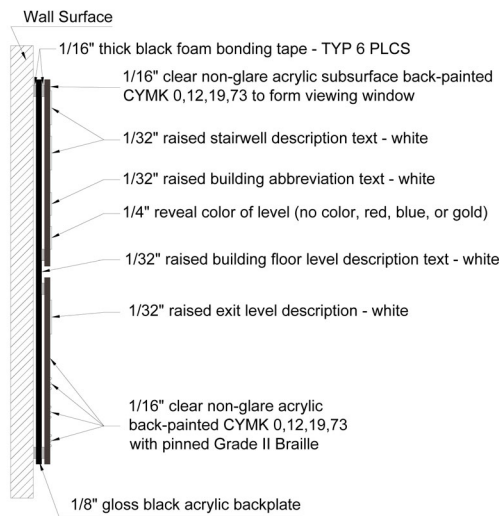

Figure 20.11
- 20.11. UMD E2 sign cross section shall comply with figure 20.11.